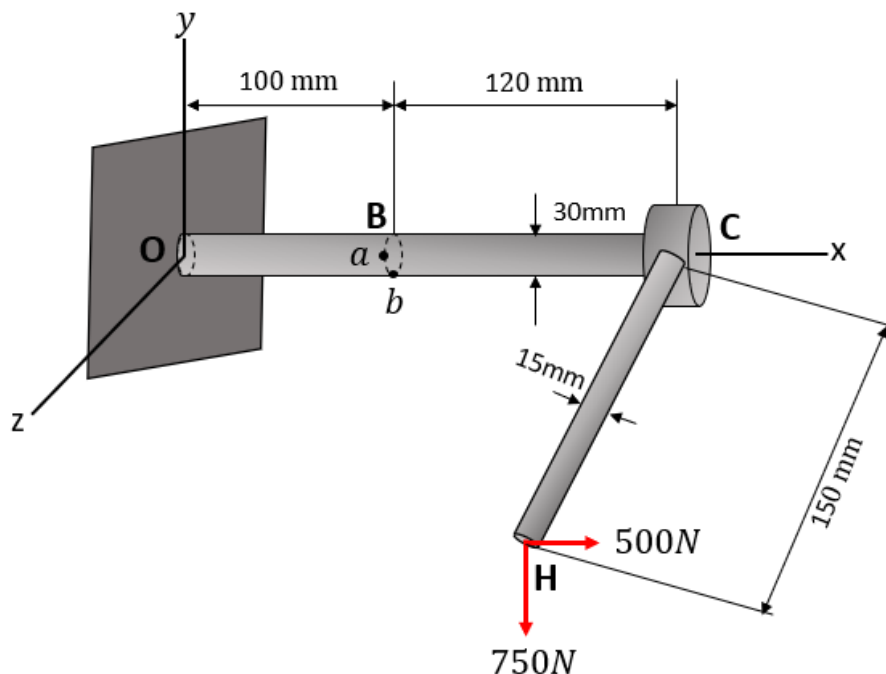

Figure 3
4. Consider the elastic structure shown in the Fig. 3, where a force equal to $(500 \mathbf{e}_1 - 750 \mathbf{e}_2) \text{ N}$ is applied at the end of the segment CH parallel to the z-axis.